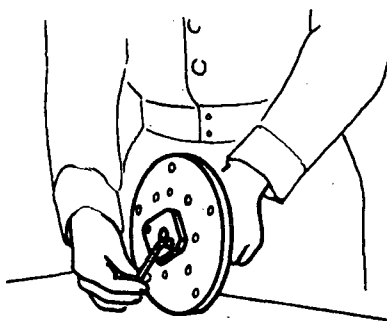

Fig. 1
- d) Mount the flange onto the hub of the machine (fig. 1).